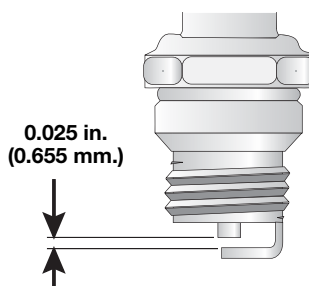

Fig. 39
4. Replace cracked, fouled or dirty spark plug. Set the spark gap at 0.025 in. (0.655 mm.) using a feeler gauge (Fig. 39).